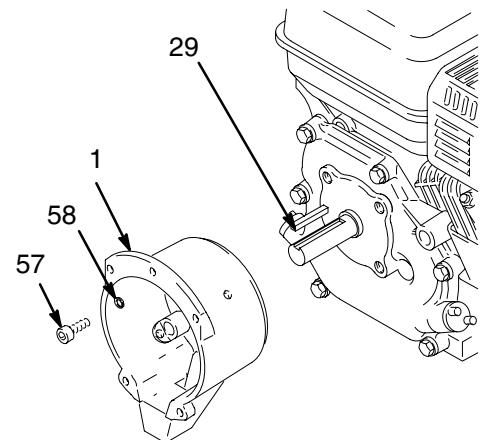

Fig. 22
1. Fig. 22. Remove four capscrews (57) and lock-washers (58) holding clutch housing (1) to engine.
2. Remove the engine key (29).
3. Pull off the clutch housing (1).